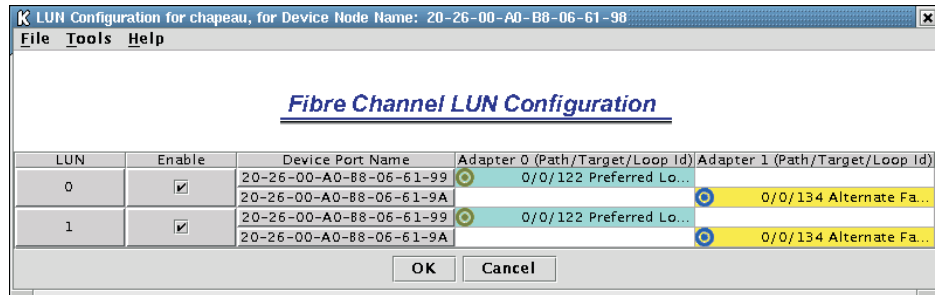

Figure 150. Fibre Channel LUN Configuration window
- Click **Configure LUNs**. The LUN Configuration window opens (see Figure 150).